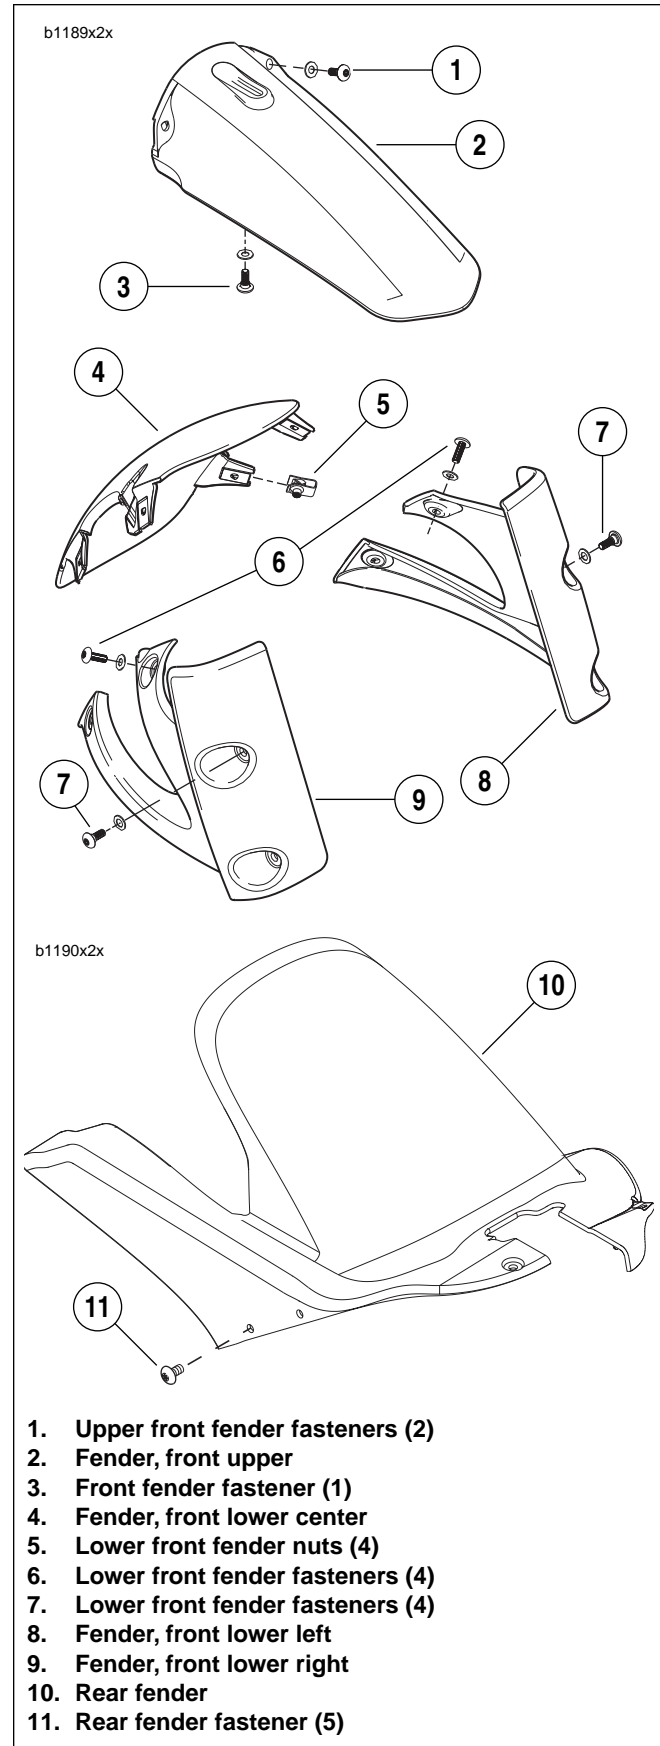

Figure 2-123. Front and Rear Fenders
1. See Figure 2-123. Remove fasteners and washers (1) securing the upper front fender (2) to lower triple clamp.
2. Remove fastener and washer (3) from headlight assembly. Carefully remove upper front fender (2).
1. See Figure 2-123. Align upper front fender (2) to fender mounts on lower triple clamp and install front fender fasteners and washers (1) and tighten to 36-48 **in-lbs** (4.0-5.4 Nm).
2. Install front fender fastener and washer (3) and tighten to 36-48 **in-lbs** (4.0-5.4 Nm).
1. See Figure 2-123. Remove fasteners and washers (11) securing the rear fender (10) to swingarm.
2. Remove rear fender (10).
1. See Figure 2-123. Align rear fender (10) to swingarm and brake line.
2. Apply LOCTITE 272 (red) and install rear fender (10) with fasteners and washers (11). Tighten to 12-36 **in-lbs** (1-4 Nm).